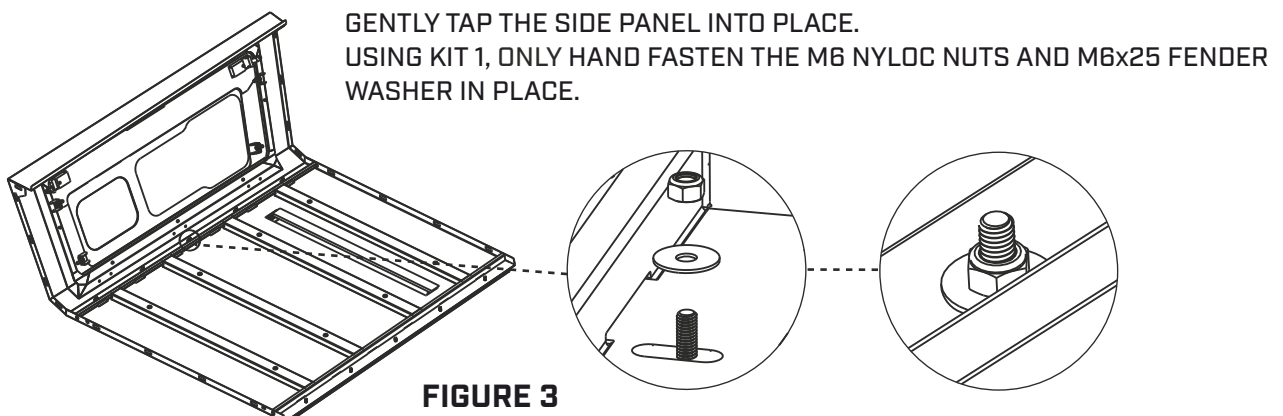

FIGURE 3
4. TO ALLOW GREATER FLEXIBILITY FOR PANEL FITMENT, ONLY HAND TIGHTEN HARDWARE AT THIS STAGE. [SEE FIGURE 3]